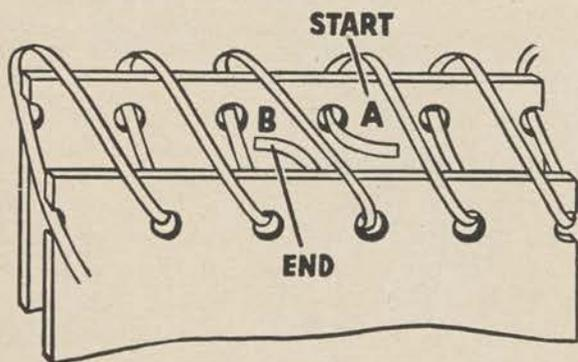

Figure 38.
c. In continuous lacing, one end of the thong (A) is skived and cemented as above, but instead of beginning with a straight stitch the diagonal lacing is started at once (fig. 38). When it has been carried